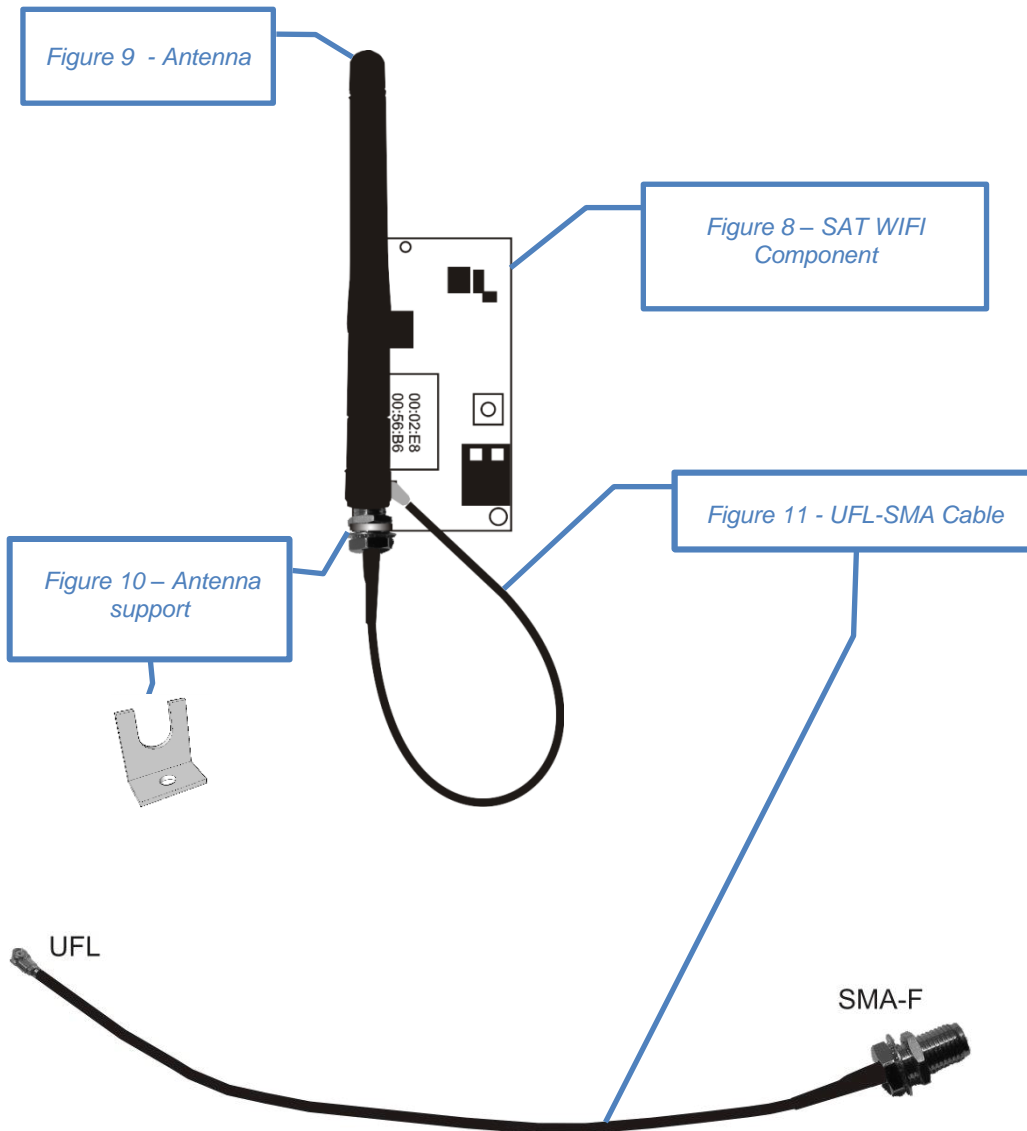

Figure 7 - Example of UTP category 5 cable with RJ45 male connectors
- Ethernet cable, UTP category 5, 5e or 6 with RJ45 male connectors (figure 7).